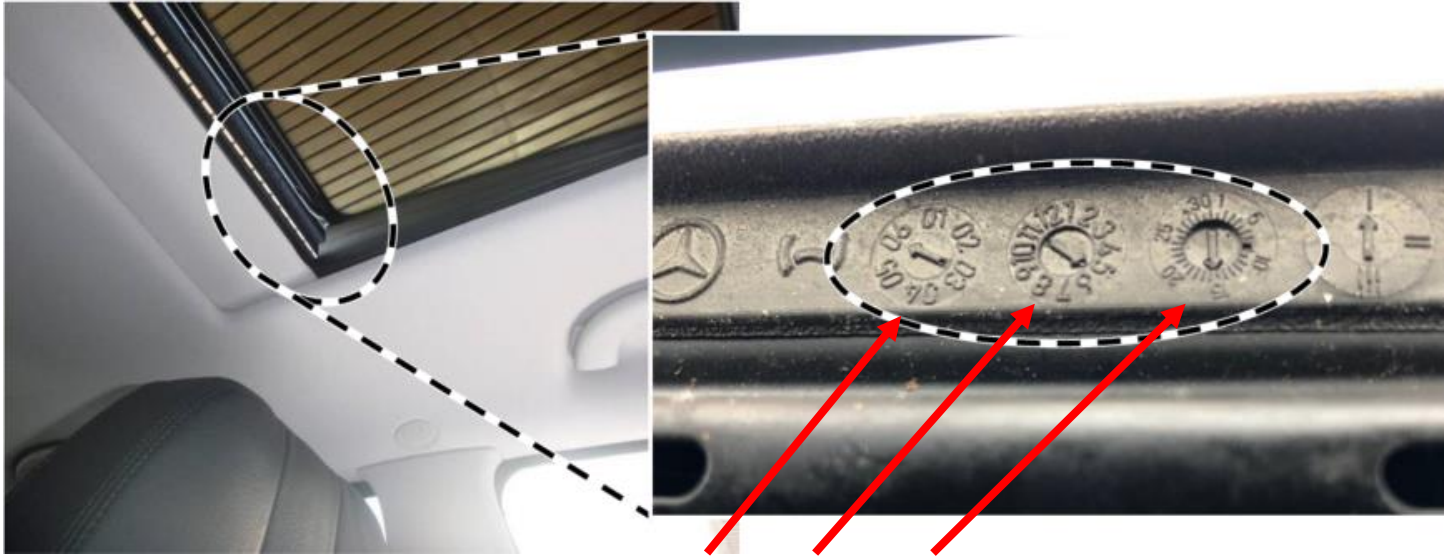

Figure 1 (The production date in the sample picture is (06 year / 5 month / 15 day) **5/15/2006**)
1. Move sliding sunroof to tilt position and check production date (figure 1).
i If the production date is **not** at the location shown (figure 1), this vehicle is **not** affected.
- c. **No** production date present at location shown (figure 1): **End measure**.